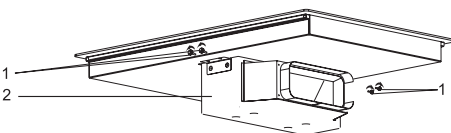

Fig. 29
7. Loosen the assembly screws (Fig. 29/1).